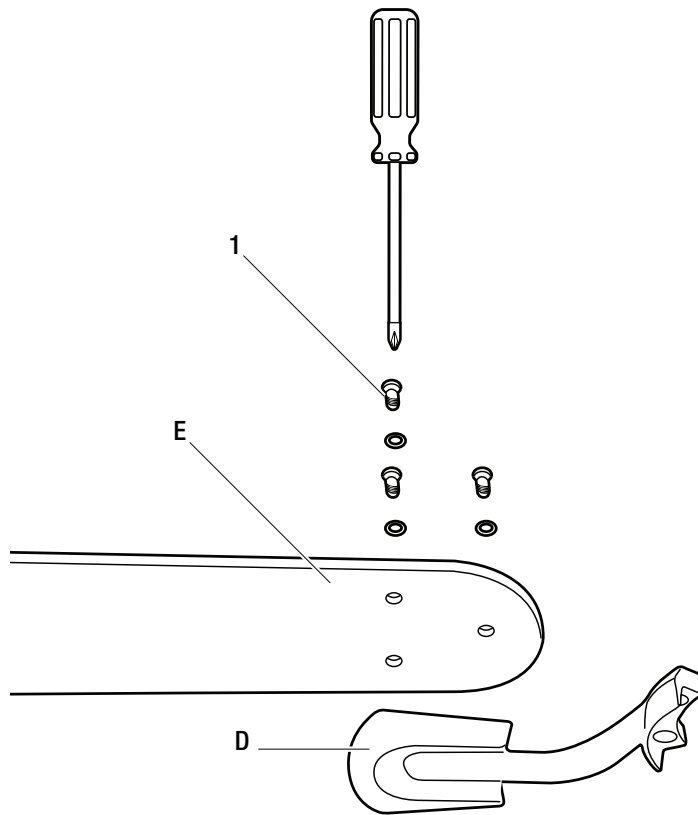

Figure 12
- Mount the blade holders (D) to the fan blades (E) using the screws (1) provided – 3 per blade (Figure 12). Please note the rubber washers are pre-attached to the blade holder (D).